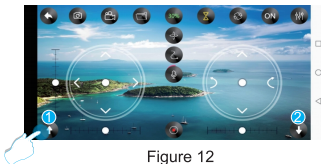

Figure 12
APP application operation: Click the "one-key take-off" ① icon (Figure 12) in APP control interface, the one-key take-off function can also be achieved; during the flight, press "one-key landing" ②, the aircraft will automatically land slowly.